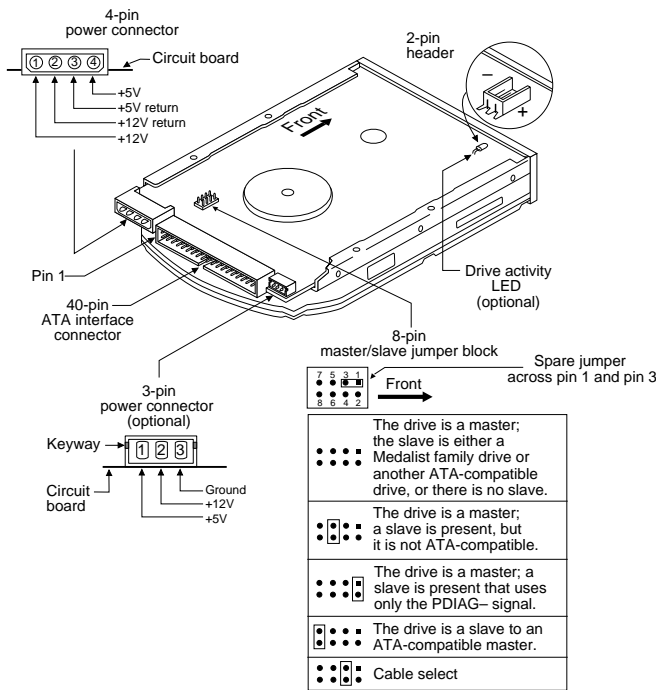

Figure 1. Jumpers and connectors
2. Install master/slave jumpers. The master/slave configuration is set using the jumper block shown in Figure 1 on page 3. The chart below the jumper block shows how to set the jumpers for different configurations. An extra jumper is included with the drive and is attached to pins 1 and 3 of the jumper block.
Installing two drives: Your Seagate drive may be installed with another ATA-compatible drive. Your system may use either a standard ATA interface cable or the cable-select method. The chart in Figure 1 shows the jumper settings for the master and slave configurations.
Refer to Figure 1 on page 3 for the locations of the connectors.
Attach one end of the cable to the drive's 40-pin ATA interface connector. Align the cable's edge-stripe with pin 1 of the drive shown in Figure 1. Attach the other end of the cable to the host adapter card or to the hard drive connector located on the motherboard. Align the cable's edge-stripe with pin 1 (see your system user's guide or host adapter user's guide).
You need an interface cable designed for two drives. Attach a cable connector to each drive's 40-pin ATA interface connector. Align the cable's edge-stripe with pin 1 of the drive shown in Figure 1. Attach the other end of the cable to the host adapter card or to the hard drive connector located on the motherboard. Align the cable's edge-stripe with pin 1 (see your system user's guide or host adapter user's guide). You can attach the drives in any order on the cable.